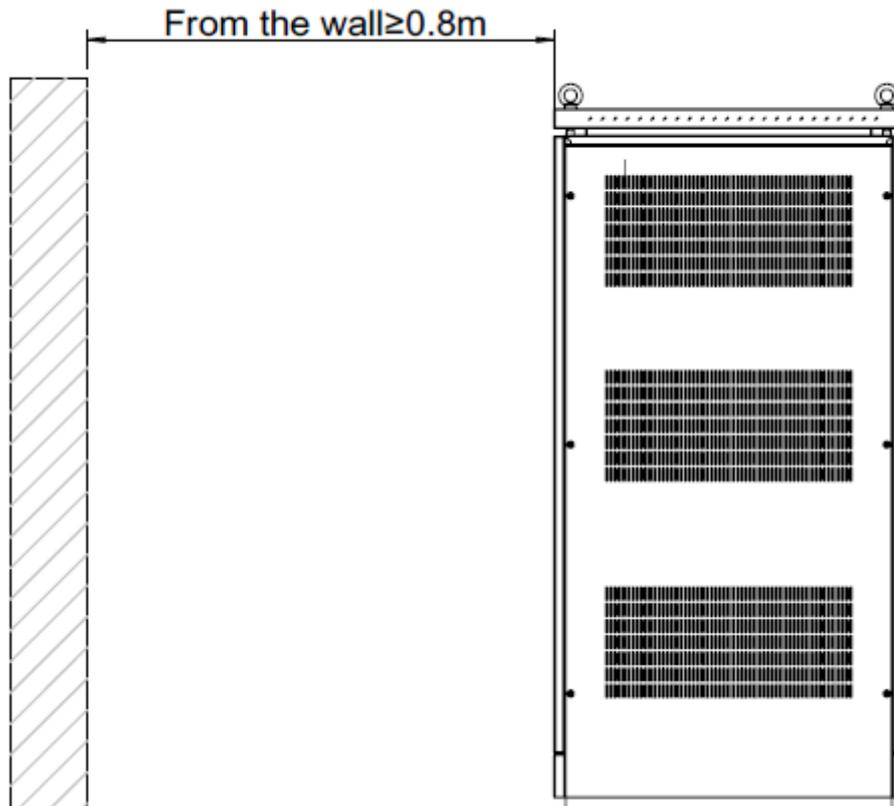

Figure 3-1 Distance between the rear door of CCR and the real object
- 3: The rear door of the equipment should be more than 0.8m away from the wall or shield to facilitate the connection and maintenance of the relevant personnel, as shown in Figure 3-1;